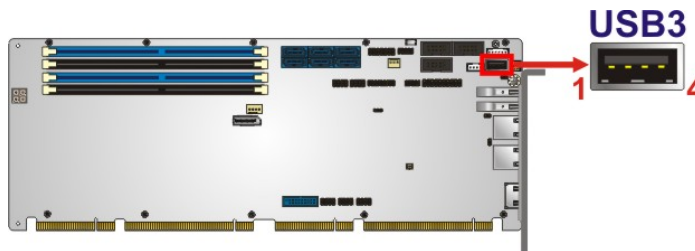

Figure 3-26: USB 2.0 Connector (Type A) Pinout Location
- CN Location:** See **Figure 3-26**